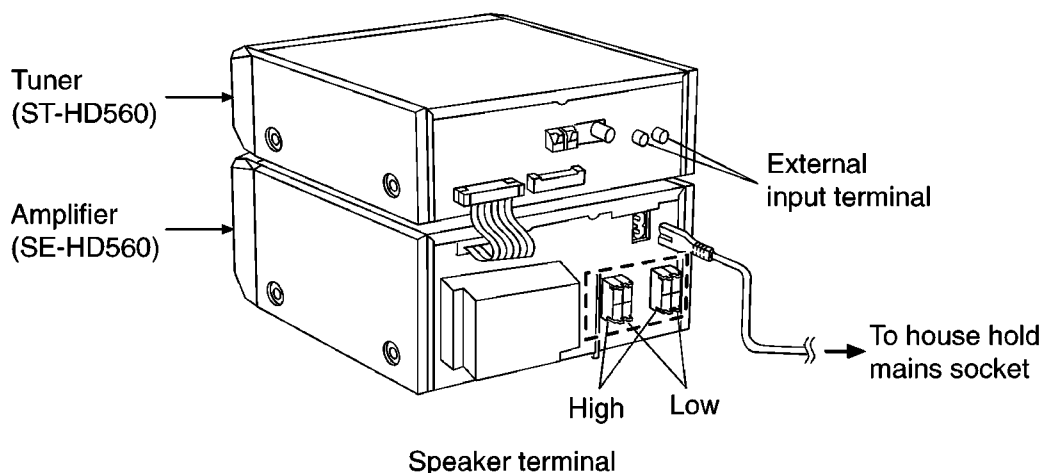

Fig. 8-1.
1. Connect with the Tuner (ST-HD560). Refer to Fig. 8-1.
2. Connect the AC power supply cord to the Amplifier (SE-HD560). Refer to Fig. 8-1.
Refer to Fig. 8-1.